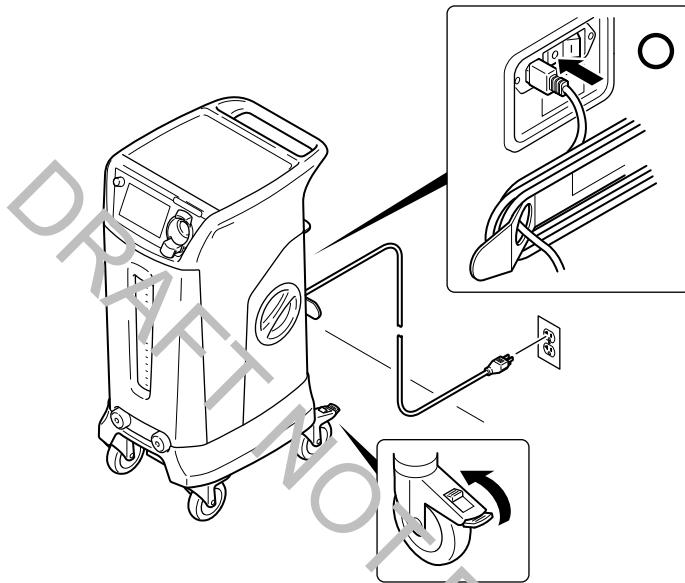

Figure 38 – Remove the Power
1. Push the power switch to the OFF position (Figure 38).